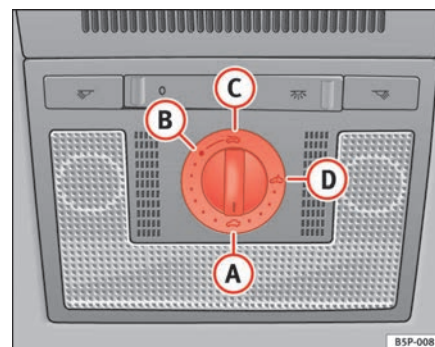

Fig. 70 Roof lining description: rotary sun roof control
- Turn the rotary button to position **A** ⇒ page 108, fig. 70 ⇒ .